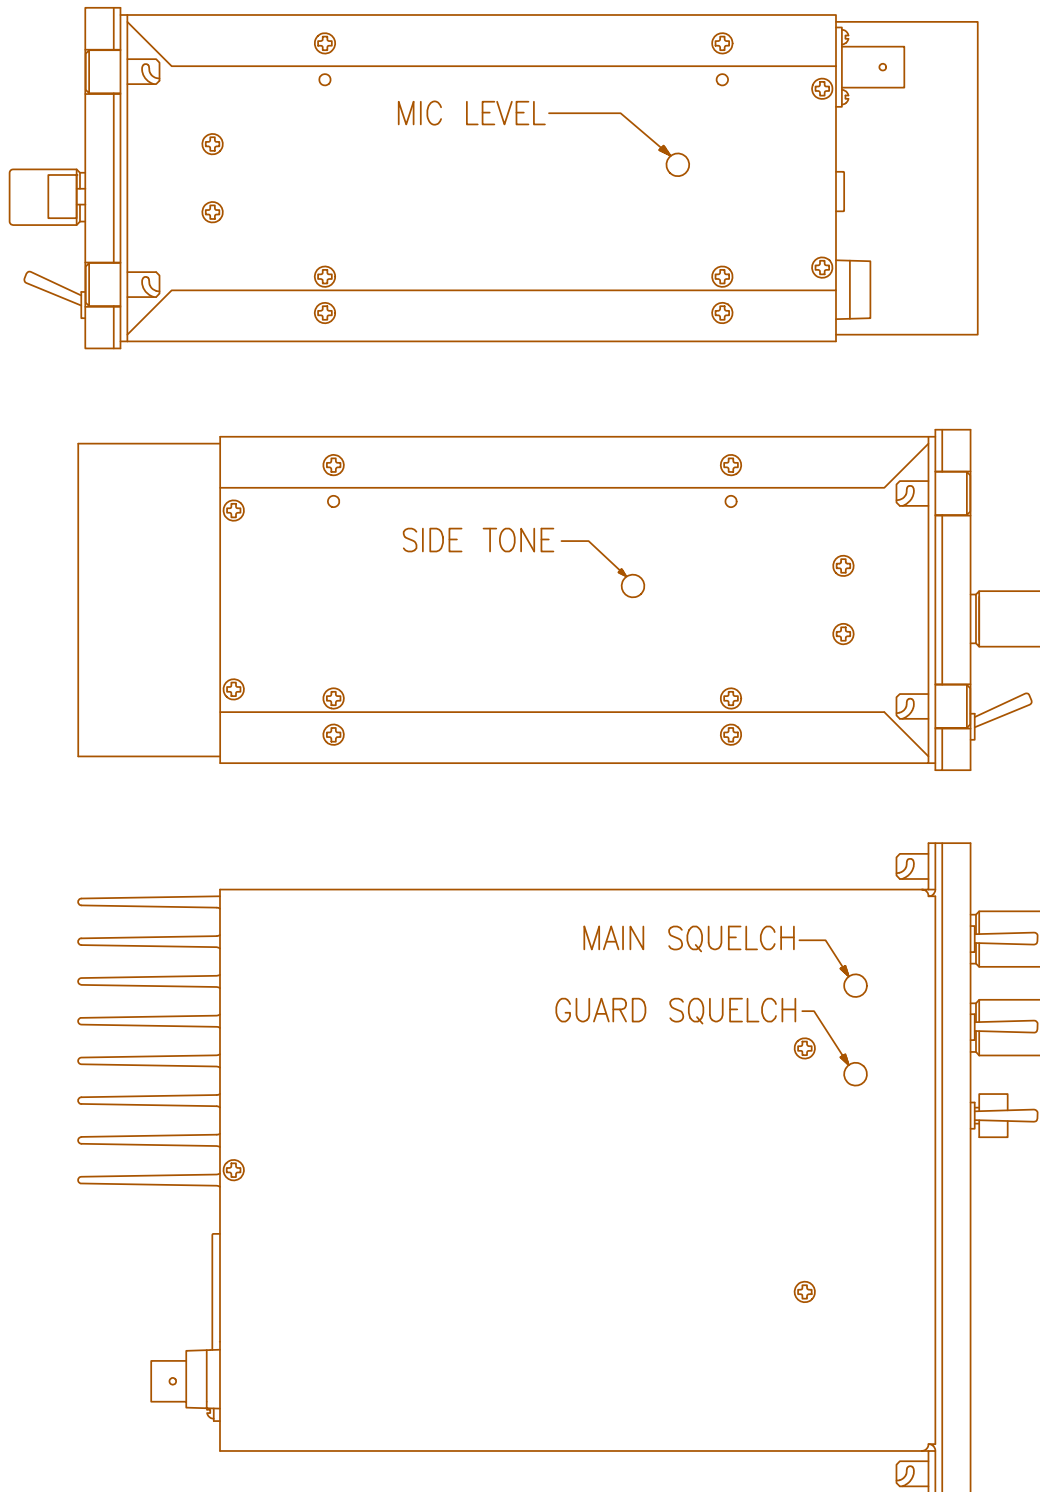

FIGURE 3.4 Microphone and Sidetone Level,
3. Adjust the microphone level potentiometer (R8 on MCU module) through the access hole located on the right side of the chassis (see Figure 3.4) to produce a 3.5 kHz deviation.
3. Adjust the sidetone level potentiometer (R37 on MCU module) through the access hole located on the left side of the chassis (see Figure 3.4) to produce a +3.0 dBm (1.0 VRMS) 600 ohm audio output.
3. If not, re-adjust main receiver squelch potentiometer, R3 through the access hole located on the bottom of the transceiver chassis (see Figure 3.4).
4. Repeat the above procedure to adjust the guard receiver squelch setting using guard receiver squelch adjustment potentiometer, R4 (see Figure 3.4).